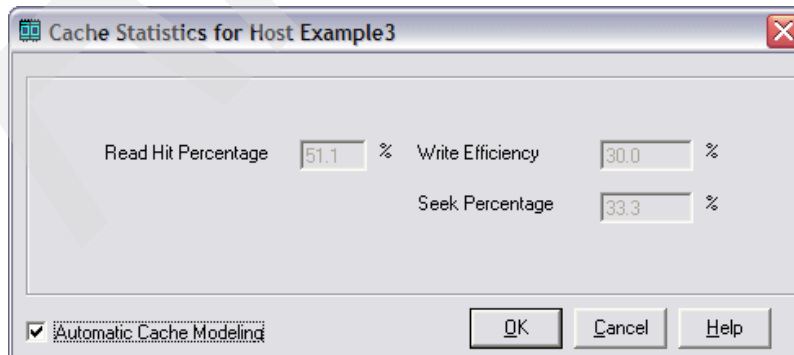

Figure 4-86 Automatic cache modeling
- i. On the iSeries Workload tab, click **Cache Statistics**. In the Cache Statistics for Host window (Figure 4-86), notice that the box Automatic cache Modeling is selected. This indicates that Disk Magic will model cache percentages automatically for DS8100 based on the reported values from performance reports for the currently used ESS 800. Note that write cache efficiency reported in performance reports is not correct for ESS 800, so Disk Magic uses a default value 30%.